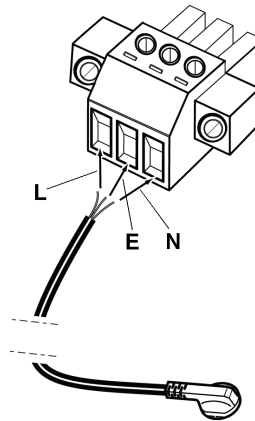

Figure 24 Schematic Diagram of Connection of the AC Power Supply Cables
1. Strip off the wire jacket of one end of the AC power supply cable by 20mm and connect the cable to the main power supply wiring terminal, as shown in Figure 24.